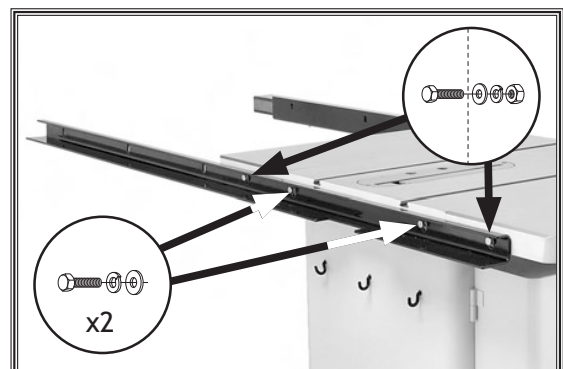

Figure 19. Rear rail installed (W1820).
12. Attach the rear rail to the holes on the main table using two M8-1.25 x 30 hex bolts, 8mm lock washers and 8mm flat washers, as shown in **Figure 19**.